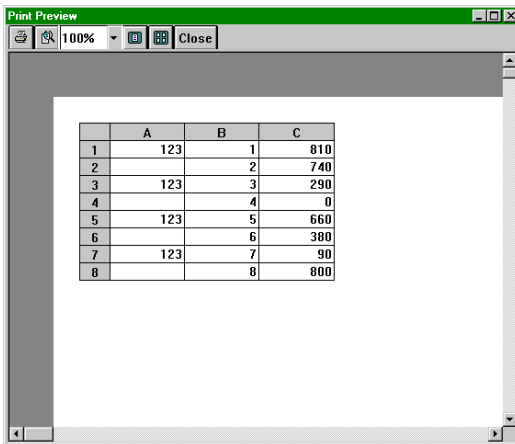

Figure 6.5: Print Preview dialog box
2. Select **P**rint **P**review. This will advance you to the [Print Preview] dialog box, similar to the example shown in Figure 6.5.